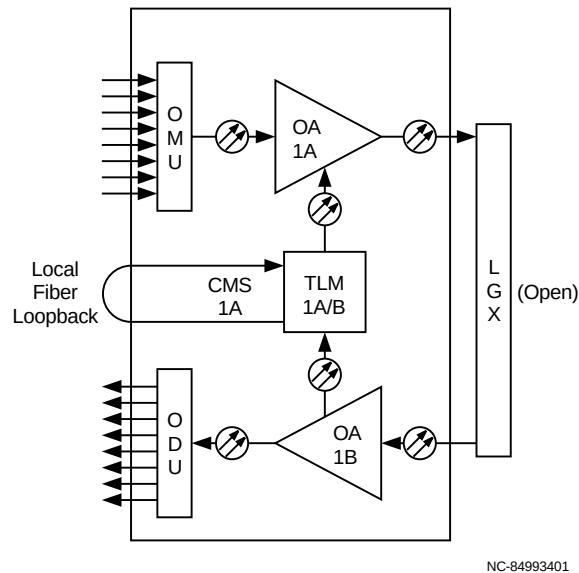
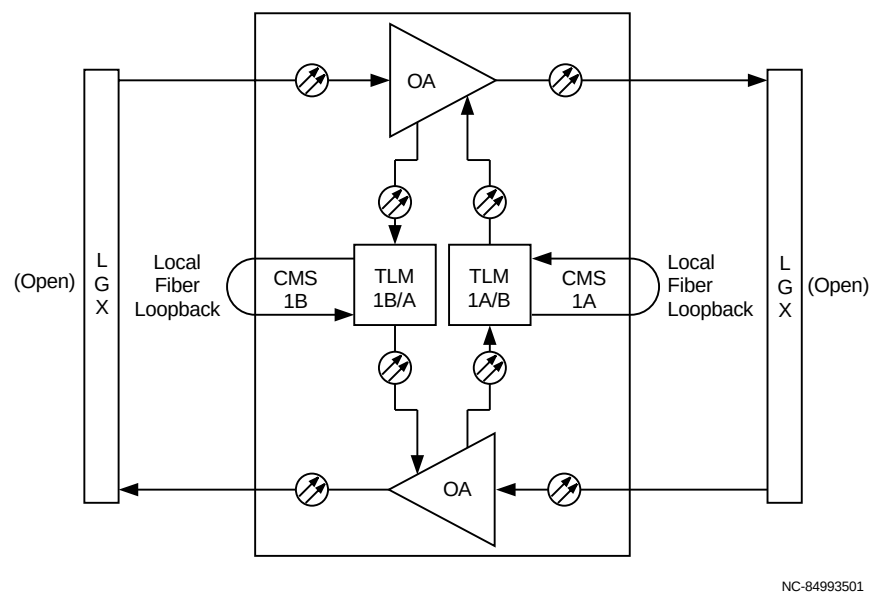

Figure 9-2. Local CMS Self-Test (End Terminal with Two OA Circuit Packs)
Figure 9-4. Local CMS Self-Test (Repeater)
- **CMS:** The local (CMS) test verifies the transmission path between the CMS IN and CMS OUT ports of the Telemetry Controller (TLM) circuit pack at end terminals with two OA circuit packs (Figure 9-2), end terminals with a single OA circuit pack (Table 9-3), and at repeaters (Figure 9-4).